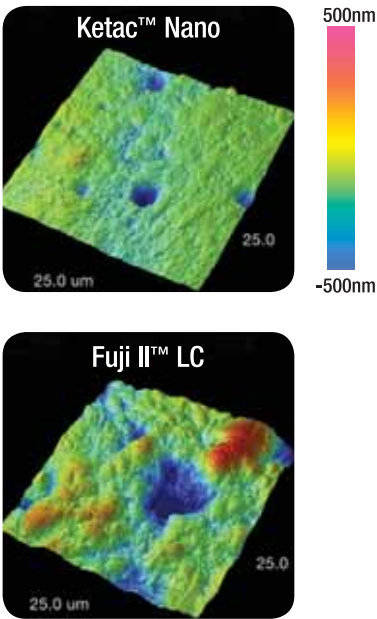
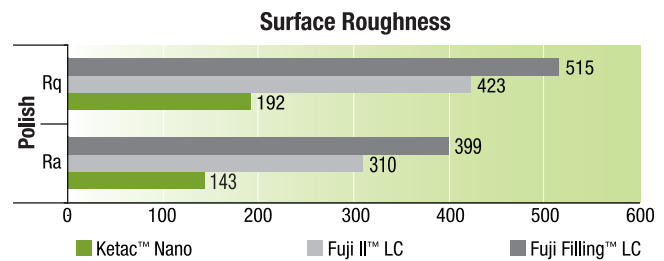

Fig. 2: Surfaces after polishing with a medium-grit disc followed with a two-step, diamond-impregnated, rubberized polishing system.
Fig. 3: Ketac™ Nano Light-Curing Glass Ionomer Restorative has smoother surfaces after being subjected to polishing.
**Atomic Force Microscopy:** 3M Central Research Analytical Laboratory subjected polished samples to a topographical study using AFM (atomic force microscopy). The resulting AFM images are shown in Figure 2. Peaks and valleys on each surface are clearly distinguished by colour differences according to the legend. Here, the deep blue represents a valley and the red indicates a peak. This visual clearly shows the different surface roughness of each of these materials.
**Surface Roughness:** Ra is the universally recognized, and most used, international parameter of surface roughness. It is the arithmetic average deviation of peaks and valleys from the mean line. Rq determines the root-mean-square value of roughness corresponding to Ra. Rq has the greatest value in optical applications where it is directly related to the optical quality of a surface. Ketac Nano restorative roughness values (Fig. 3) provide a quantitative value to the AFM visuals (Fig. 2) taken after polishing.